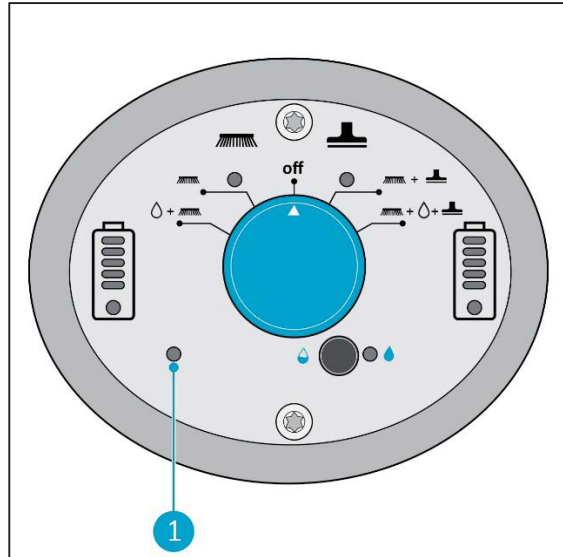

Figure 20
The angle warning indicator is situated on the control panel (Figure 20, pos 1). When the angle of the machine is below 32 degrees, the indicator light will turn on and the water recovery function will be paused. When the handle is raised above 32 degrees the vacuum motor will restart after 5 seconds.